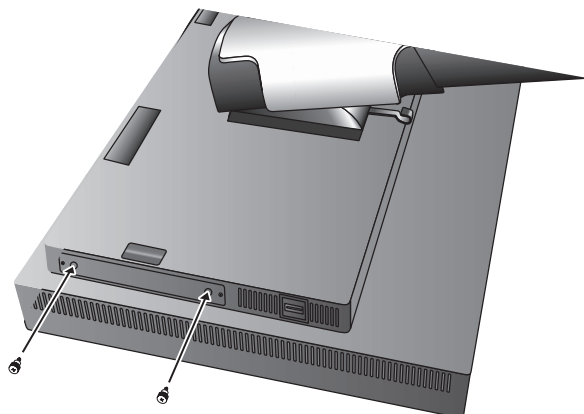

Figure G.1
2. Connect attached thumbscrews to the holes on the HDMI and DisplayPort Input Card (**Figure G.1**).